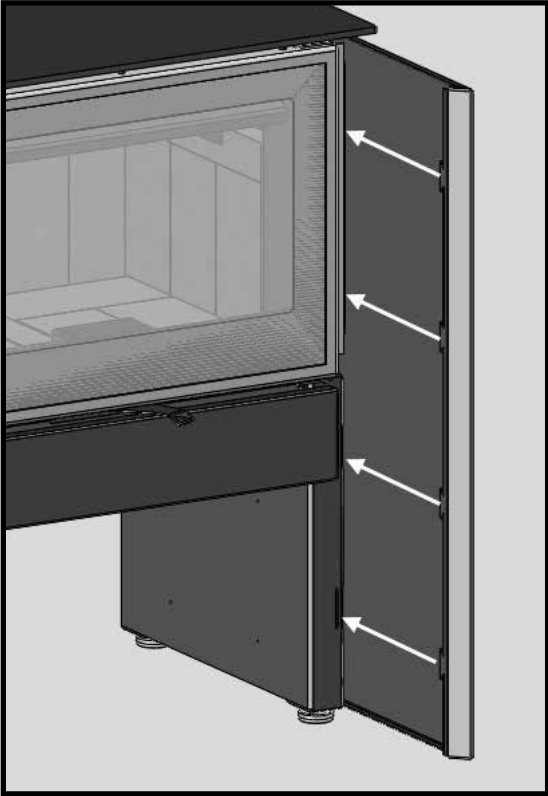

Figure 6: NEOVIEW 2.5 LE panel front.
3. Guide the Side Panel's front tabs into the slots on the front of the Panel Mounting Brackets located on the side of the unit and the slots in the legs. Pull towards the back to fully engage (Figure 6).